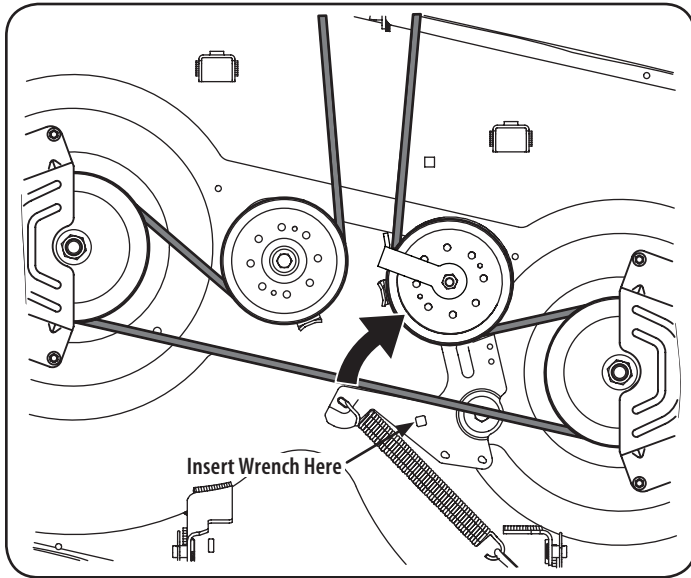

Figure 27
- c. Working on the right side of the tractor, insert a $\frac{3}{8}$ " drive ratchet wrench, set to tighten, into square hole found on the idler bracket. See Figure 27.